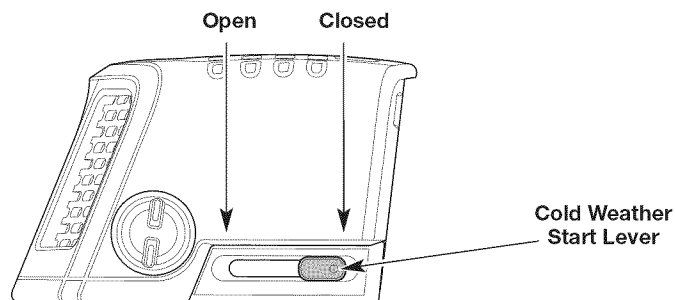

Fig. 10
3. **In cold weather only (below 50° F):** Move the cold weather start lever to the **Closed** position (Fig. 10).
8. If it was moved in step 3, move the cold weather start lever back to the **Open** position (Fig. 10).
10. If it was moved in step 3, move the cold weather start lever back to the **Open** position (Fig. 10).